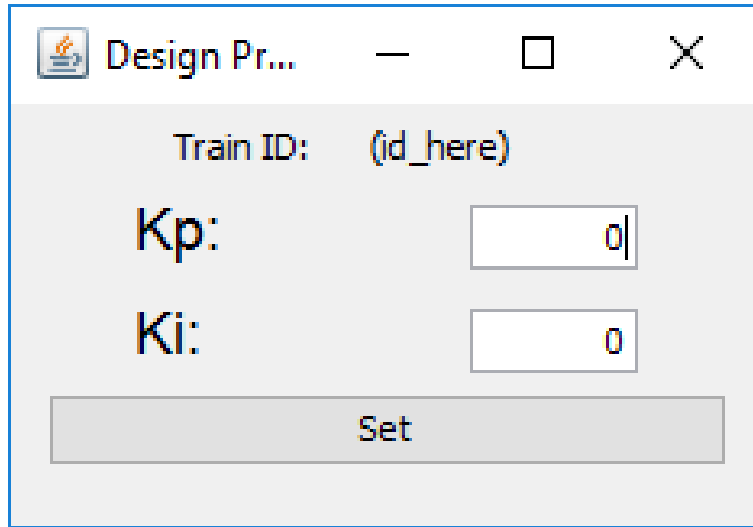

Figure 4: User Interface for setting  $K_p$  and  $K_i$ .
- Set  $K_p/K_i$  - Allows the user to control the power constants,  $K_p$  and  $K_i$ . Clicking on this opens up Engineering Panel (Figure 4).